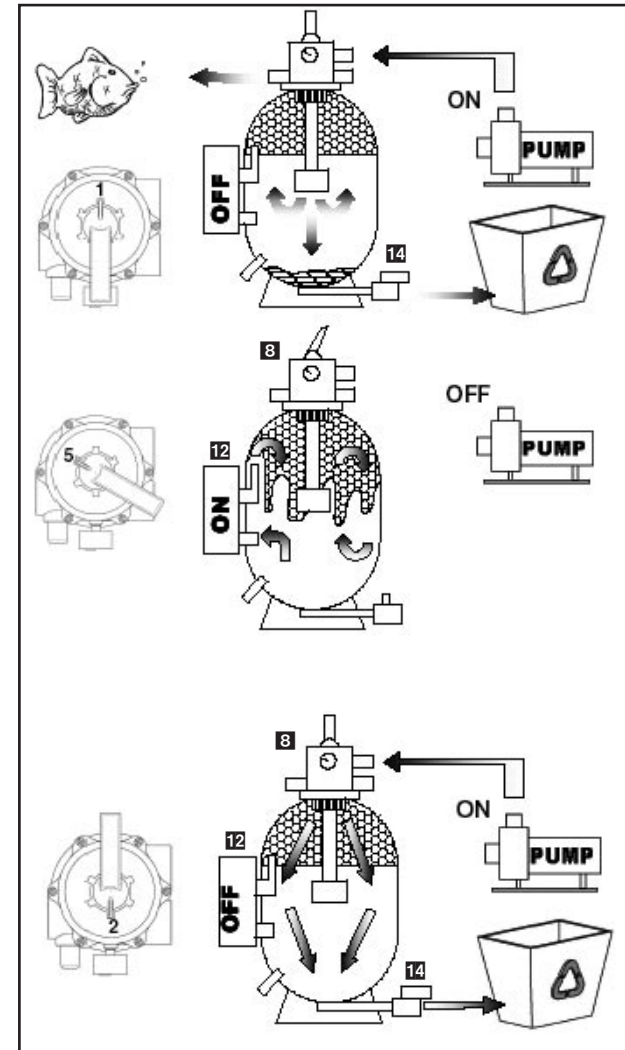

Figure 2
4) Filter Cleaning (Back Flushing) (Fig. 2)